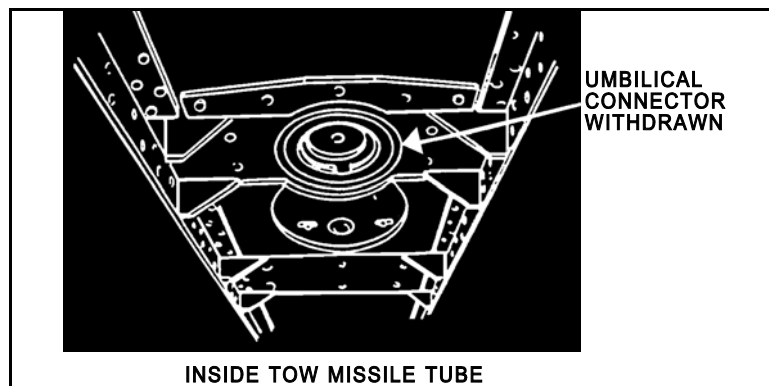

Figure 3. Umbilical connector.
- b. Ensure that umbilical connectors are not extending down into the tubes (Figure 3).